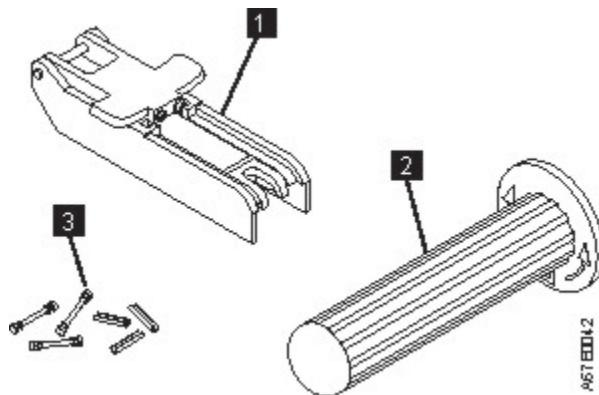

Figure 105. Leader pin reattachment kit
- **Leader pin attach tool** (See 1 in Figure 105 on page 226). A plastic brace that holds the cartridge door open.
- **Cartridge manual rewind tool** (See 2 in Figure 105 on page 226). A device that fits into the cartridge's hub and enables you to wind the tape into and out of the cartridge.
- **Pin supplies** (See 3 in Figure 105 on page 226). Leader pins and C-clips.